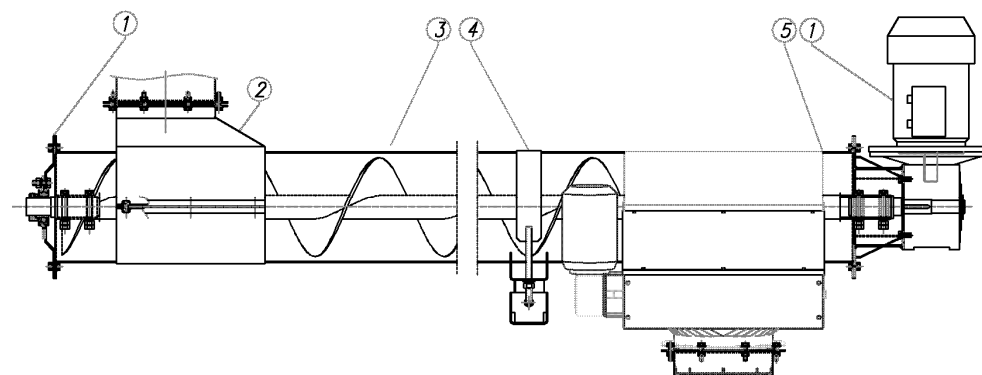

Fig.15: PS220— version with PSU220-ZASUW\_1 and PSU220-ZASNAP1
- d) If there is a need to close the screw conveyor outlet (see Fig. 15), use the outlet gate valve, 5, either PSU220-ZASUW\_1 – manually controlled one, or PSU220-ZASNAP1 – electrically controlled one.